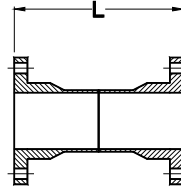

FIG.15
December 2004: Updated pressure rating, wall thickness, & flange thickness for 20HV and 20C in sizes 20" and 24". Corrected wall thickness for 110FW in sizes 6" and larger. Updated flange thickness for 110FW in sizes 20" and 24". Added Fig.10o and Fig.15 data for sizes above 24". Added new note on gaskets. Added thicknesses and O.D.s for fittings. Added note for Fig.47JF MNPT olets. Changed 110 to 110FW.
2. For Fig.15, the minimum L length for the Fig.15 flange requires special fabrication techniques and normally requires additional time for delivery.